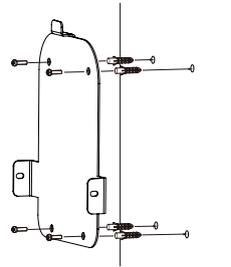

Fig. 5: Wall-mounting bracket installation
3. Use four included expansion screws and four M6 screws to fasten the wall-mounting bracket to the wall (see Fig. 5).